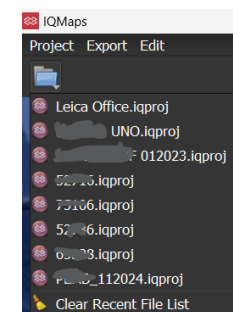

Fig. 37 Open a recent project
- Alternatively, by keeping the left mouse pressed on  icon, would pop up a short list of recent projects open that can quickly be recalled Fig. 37.